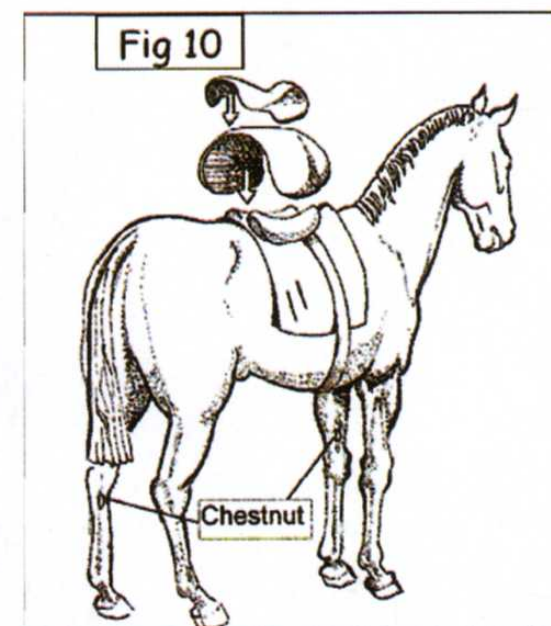

Fig 10
**Saddle panels in Fig 10 need not necessarily consist of two separate pieces. Modern saddles incorporate both as one, but made in such a way that pressure is not exerted on spinous processes.**
The second last point I wish to discuss briefly relates to hooves and shoes. Hind hooves are slightly longer and more oval-shaped than front hooves, therefore, it stands to reason that their shoes are larger too, (Fig 10). Front hooves are wider, with both possessing 'V' shapes, called 'frogs', as per Fig 10, which you should model in if a hoof is raised. The front of each shoe possesses either one or two overlapping clips, which prevent objects from wedging in between shoe and hoof, causing the animal to become lame.